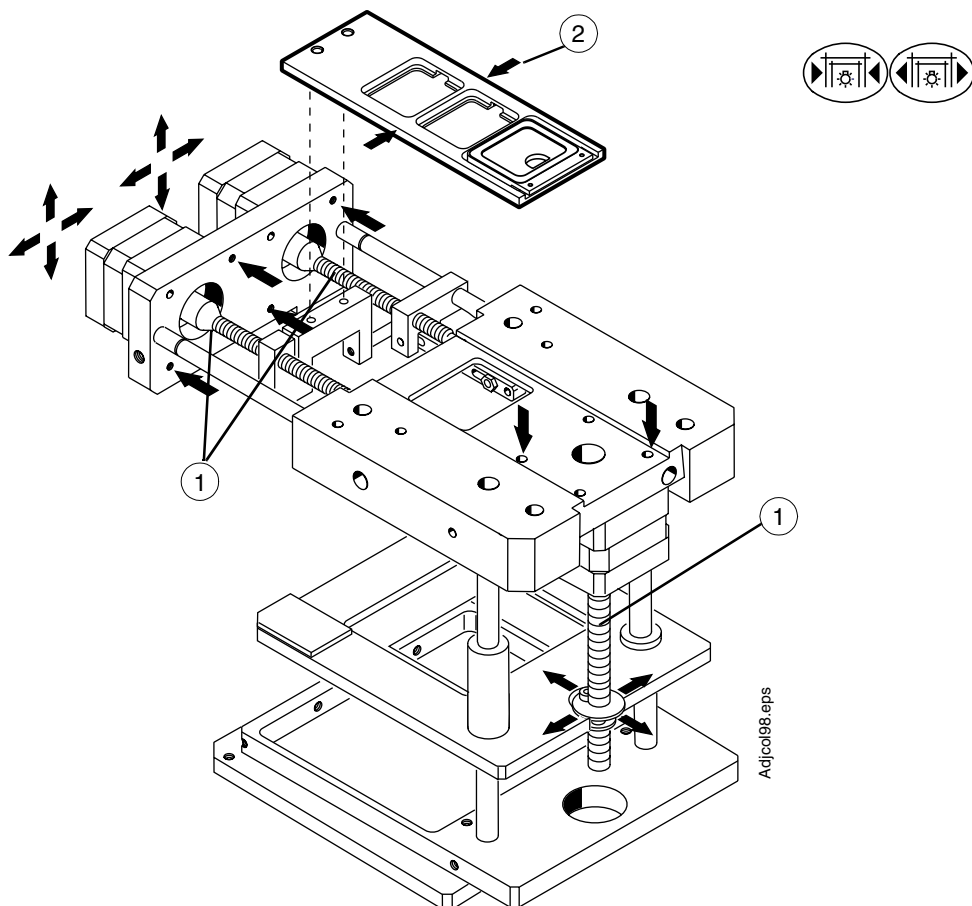

Figure F.22
- a) Check that all the worm-screws rotate easily (Fig. F.22, 1). If there is stiffness, try to reduce it with following procedure:
- c) Check that the filter ladder outer edges have a thin layer of vaseline (Fig. F.22, 2).